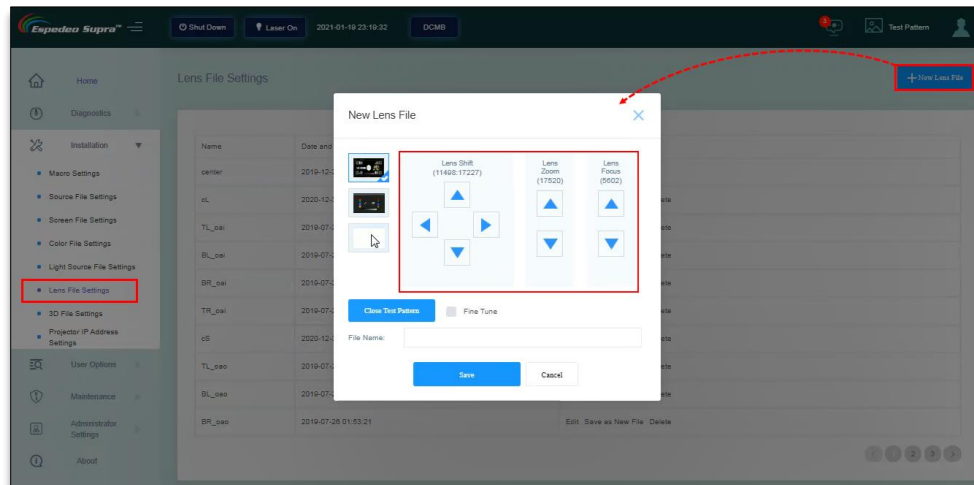

Figure 69: Create Lens file
- From the **Install** screen, go to **Lens File Settings** and click on **+New Lens File**. For adjusting the offset and focus, select the DCI standard test pattern image. Click the **Lens Shift Up/Down/Left/Right** buttons to adjust the offset and click the **Lens Focus Up/Down** buttons to make the image focus clear. Provide a name to the new Lens File and click on **Save**. Refer to **Figure 69**.